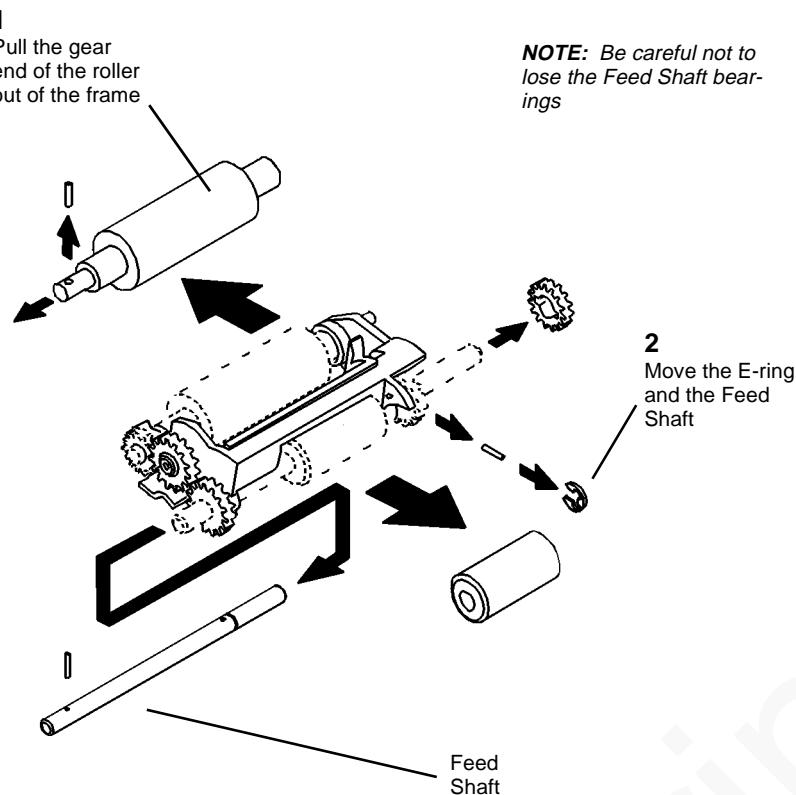

Figure 5 Removing the Retard Roller
5. (Figure 5): Remove the Retard Roller.